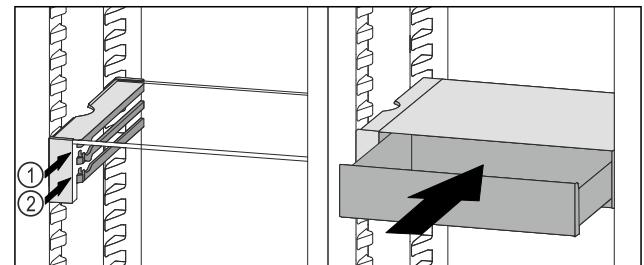

Fig. 133
- ▶ Place the VarioSafe drawer behind the stops on desired rib Fig. 133 (1) or Fig. 133 (2).